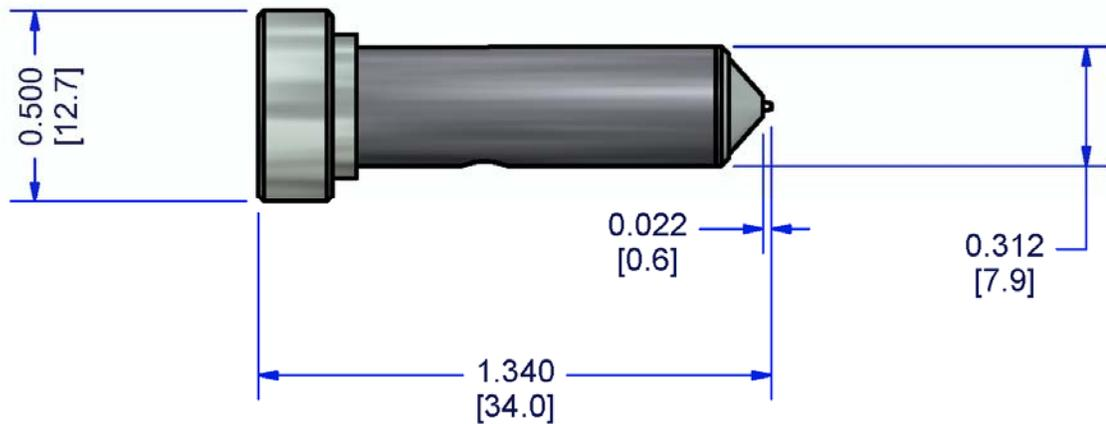

Figure 1 - MJ-SF-04 physical dimensions (in / mm)
- Physical dimensions are shown in Figure 1.